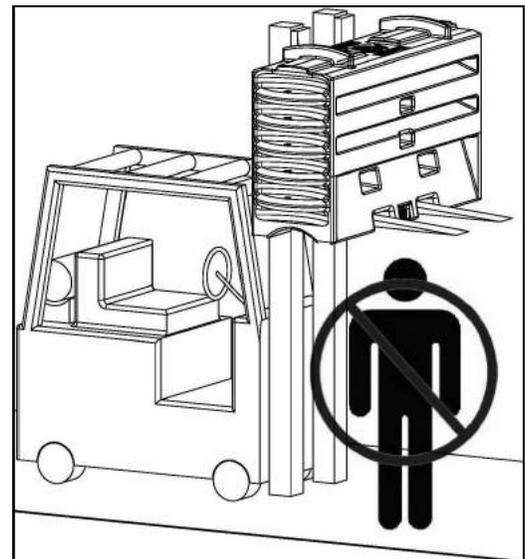

Figure 16: Proper Forklift Procedure
Do not drive with two (2) or more filled modules on a forklift. If maneuvering filled modules is necessary using a forklift, only move filled modules one (1) at a time. If the modules are empty, a maximum of three (3) stacked modules may be moved using a forklift. NEVER stack modules when filled, and NEVER stand underneath or in front of the forklift when handling the modules with a forklift, as modules may fall, see Figure 16.